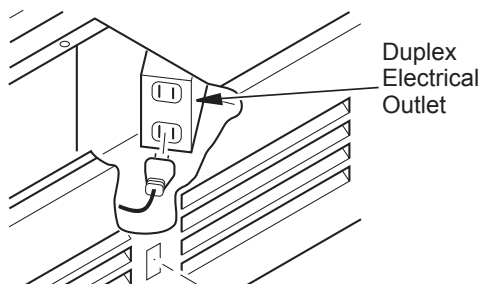

Figure 2: Accessing Duplex Electrical Outlet installed in Bottom Right Side of Firebox
⚠ WARNING: If there is a duplex electrical outlet installed in the right side of the bottom of the fireplace base area (see Figure 2), be sure that the electrical power to the outlet is turned off before proceeding with blower installation. Failure to do this may result in serious injury.
3. Plug in blower power cord to duplex outlet (see Figure 2, page 2).